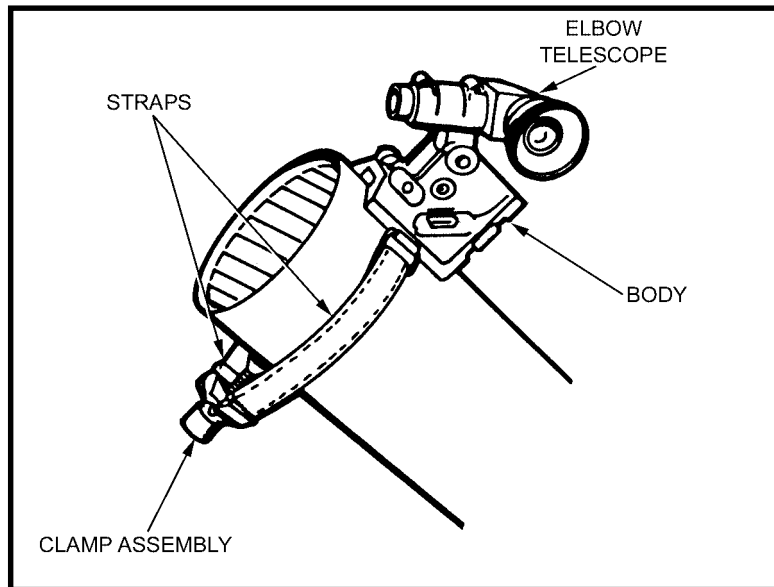

Figure 2-16. Boresight, M45.
a. **Components.** The boresight, M45, (Figure 2-16, page 2-28) consists of an elbow telescope, telescope clamp, body, two strap assemblies, and clamp assembly.
(1) The elbow telescope establishes a definite line of sight.
(2) The telescope clamp maintains that line of sight in the plane established by the centerline of the V-slides.
(3) The body incorporates two perpendicular V-slides. It contains level vials (preset at 800 mils elevation) that are used to determine the angle of elevation of 800 mils and whether the V-slides are in perpendicular positions. It also provides the hardware to which the straps are attached.
(4) Two strap assemblies are supplied with each boresight and marked for cutting in the field to the size required for any mortar.
(5) The clamp assembly applies tension to the strap assemblies to secure the boresight against the mortar barrel.